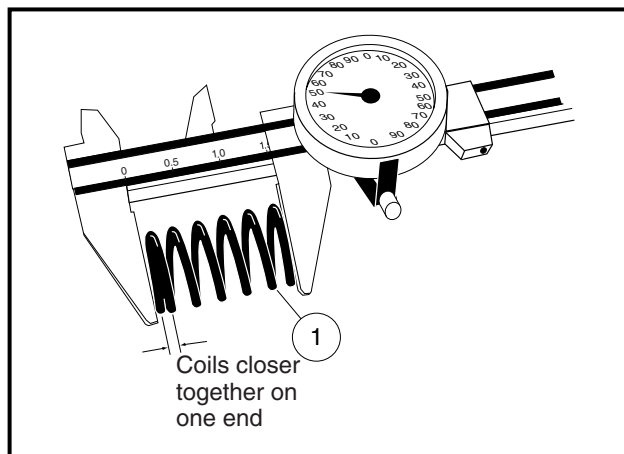

Figure 2-27 Measure Free Length of Spring
1. Inspect the valve springs (1) for pitting, cracks, corrosion, and burrs. Replace the springs if necessary (**Figure 2-27, Page 2-15**).
NOTE: Valve spring coils are closer together (have a narrower pitch) at one end of the spring than at the other. Install springs with the narrow pitch ends down on the spring seats (**Figure 2-27, Page 2-15**).